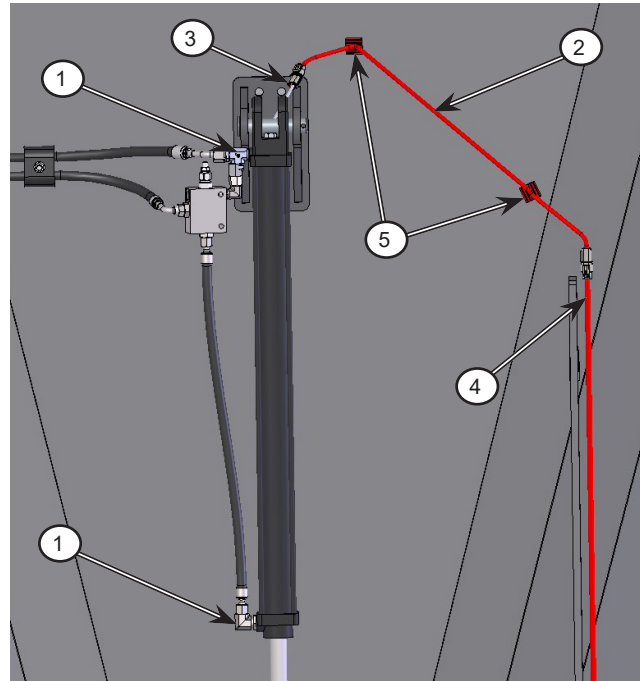

Figure 5: Install the new smart sensor
- b. Connect the previously removed hydraulic hose fittings to the appropriate positions (1) on the hydraulic cylinder; see *Figure 5*.
3. Install the electrical harness extension; see *Figure 5*.
- a. Connect the new harness extension (2) to the new smart sensor (3).
- b. Connect the other end of the harness extension (2) to the existing door sensor harness (4).
4. Install the zip tie mounts; see *Figure 5*.
- a. Clean the tub wall in suitable locations for the zip tie mounts (5).
5. Zip tie the harness extension in such a way to minimize strain on the sensor and to minimize rubbing anywhere, as shown in *Figure 5*.